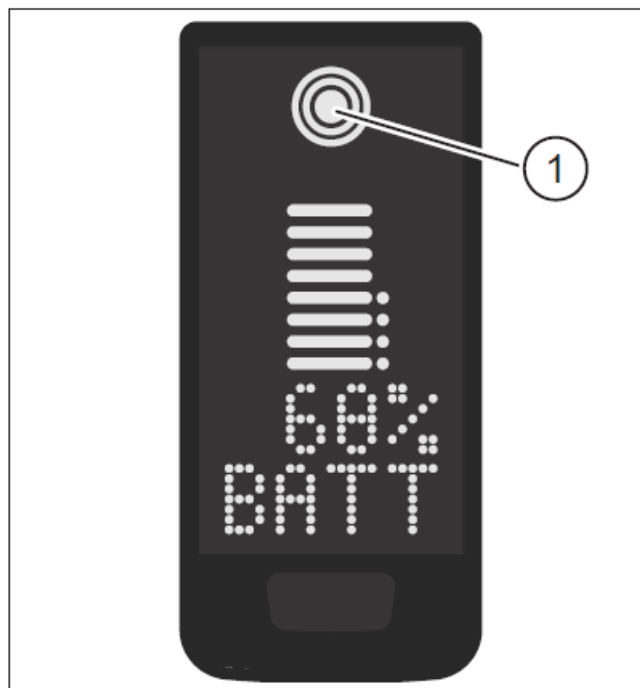

Fig. 5: Visualization of the selected assist mode
You can choose between 3 assist modes or switch off the assist from the drive unit. The selected assist mode I, II or III is shown on the Display with the corresponding number of bars (see pos. 1 in Fig. 5).